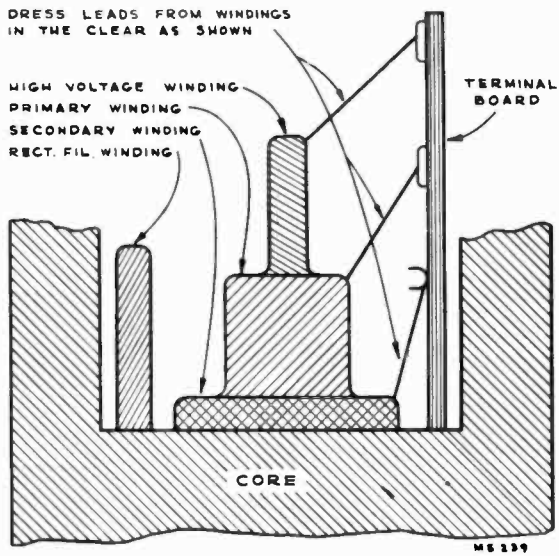

Figure 34—T109 Lead Dress
6. Dress T109 winding leads as shown in Figure 34.